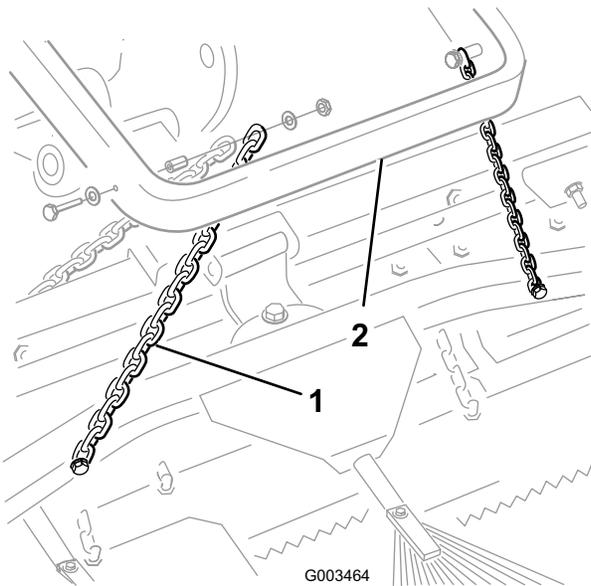

Figure 8
A. Remove the transport chain from the lift arm as shown in Figure 8.